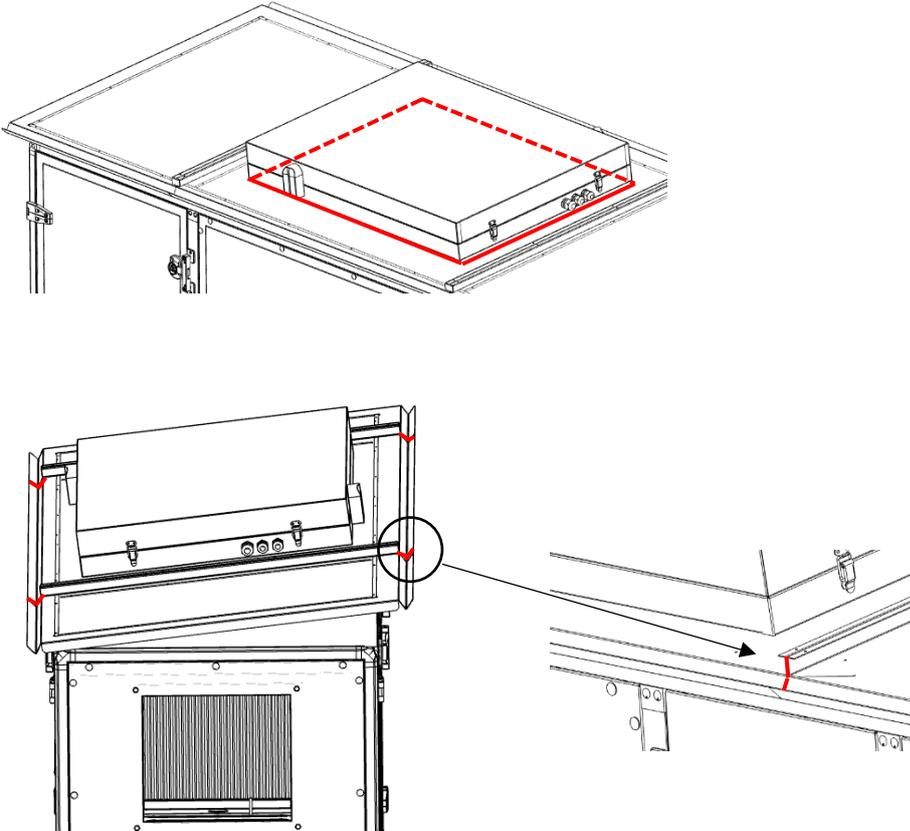

Fig. 133
8. Apply the silicone to edge of the electrical box and connection areas (Fig. 133)